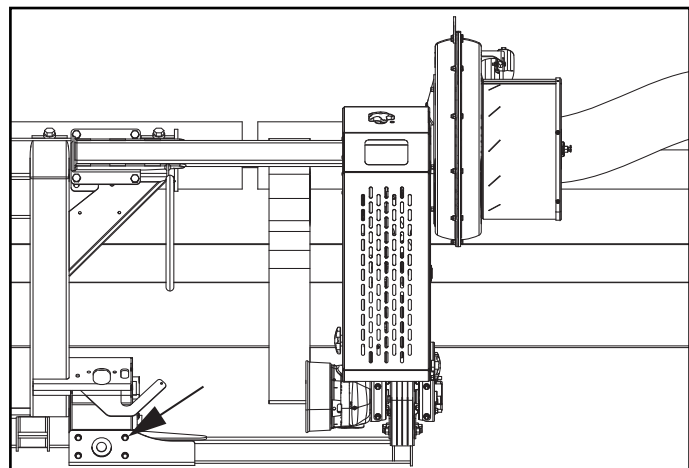

Figure 13: Belt drive mount location
1. Loosely, attach the bottom tube **(1)** to the header on the rear using four 3/8 X 1-1/4 flange bolts on the left hand side (Figure 13). Holes may need to be tapped to 3/8-16.
4. Attach the top tube **(2)** to the adapter tube using the belt drive mount plate **(3)** and four 5/8" x 7" bolts and nuts and torque to 150 ft. lbs, Figure 13 & Figure 18.